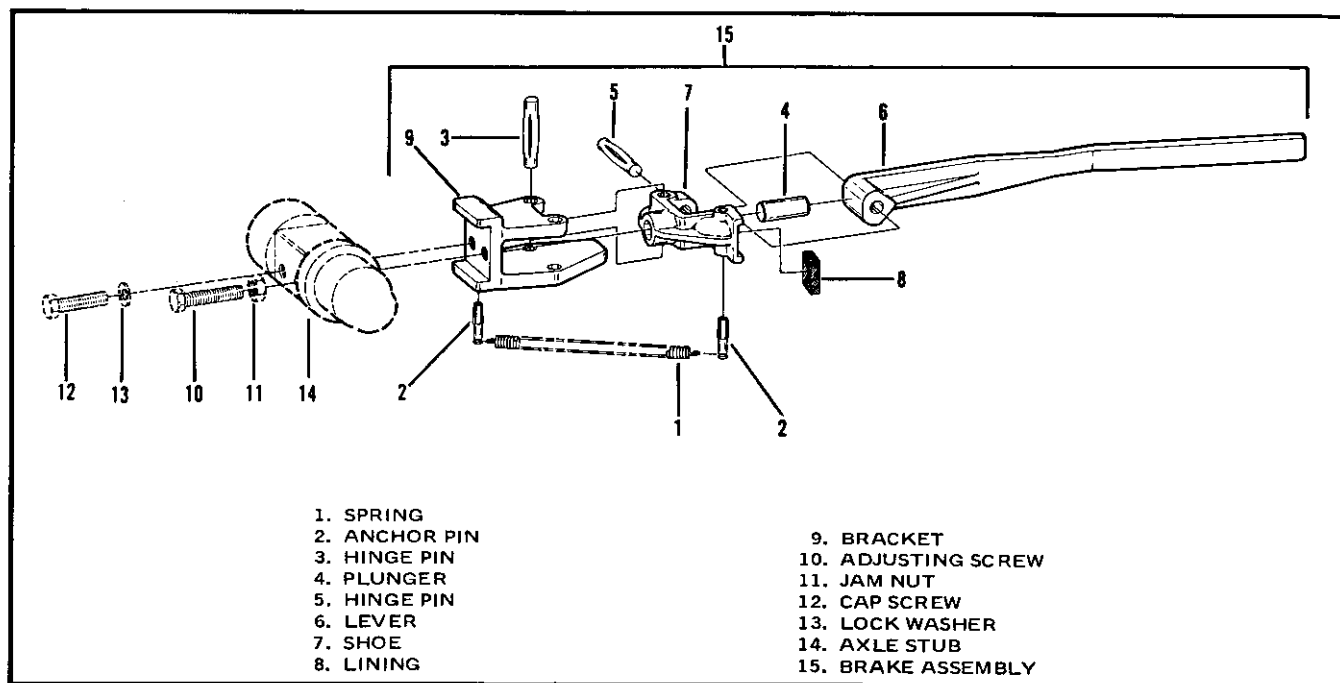

Figure 5-4. Hand Brake Lining - Disassembly and Assembly
- (3) Secure the tire, tube, and rim assembly together with the eight cap screws (10), lock washers (9), and nuts (8). Install valve core into the tube valve stem. Inflate tube to 15 psi air pressure and check for leaks.
- (4) Assemble the tire, tube, and rim assembly onto hub studs (7) and secure with five lock washers (6) and nuts (5).
- (5) Carefully place this assembly onto axle spindle (21) so that grease seal is not damaged. Fill cavity between bearings in hub (20) approximately half full of grease (refer to table 5-2). Place outer bearing cone (15) on spindle against cup (16). Assemble spindle washer (4) and nut (3). Tighten nut (3) until wheel assembly is snug on spindle with no wobble when turned by hand. Align slot in nut (3) with hole in spindle and install cotter pin (2). Assemble cap (1) and lower unit with jack.
- (6) Maintenance of wheel on opposite side is the same as just described above.
- 5-9. Hand Brake Lining (figure 5-4). If hand brake lining should become worn beyond adjustment, service as follows:
- a. Disassembly. Disconnect and remove the return spring (1). Loosen adjusting screw jam nut (11) and remove the adjusting screw (10), with jam nut (11). Remove attaching cap screw (12) and lock washer (13). Remove the hand brake assembly (15) from axle.